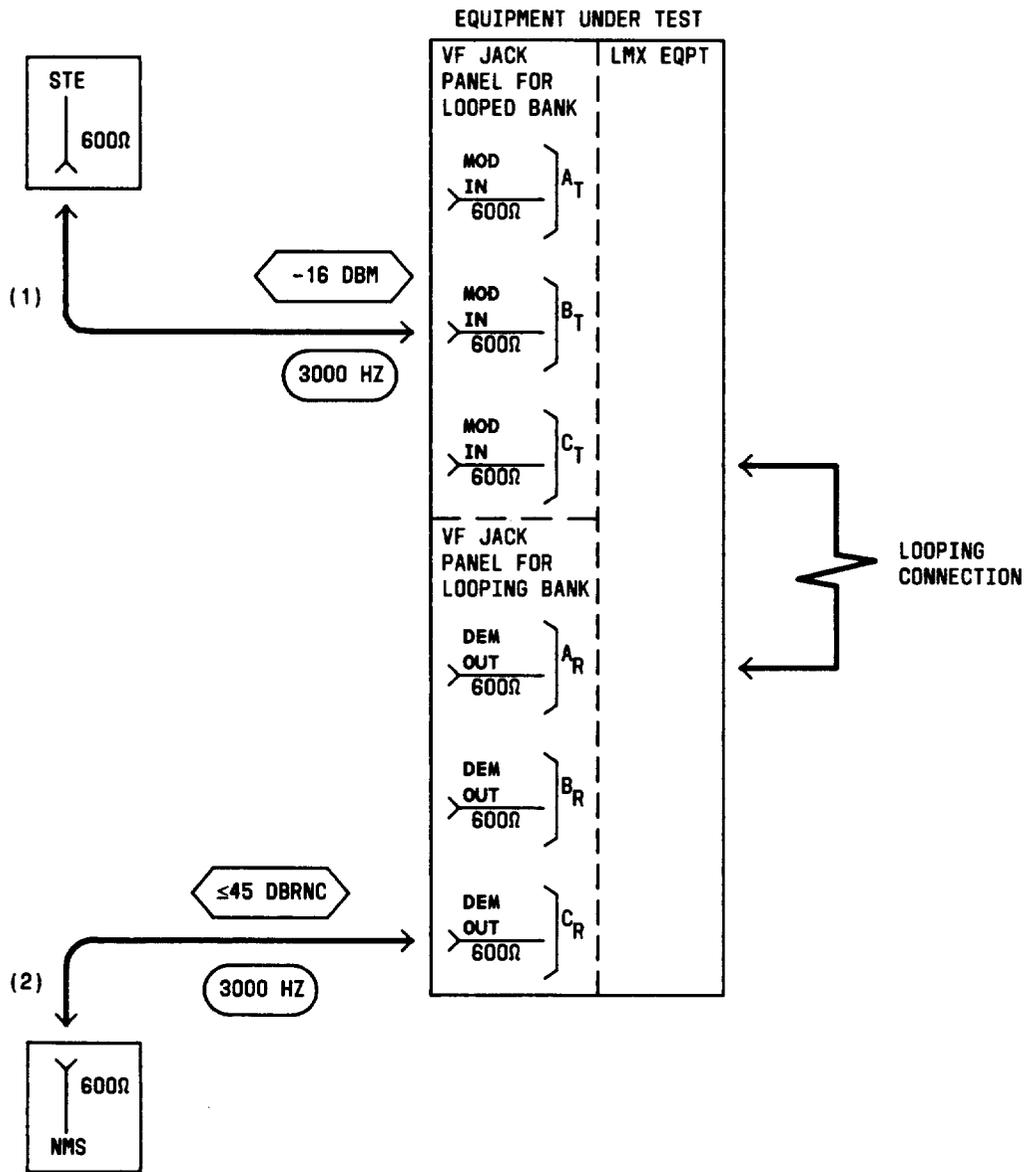

Fig. 16—Patching Diagram—Crosstalk Test—Equal-Level Looping—Upper Adjacent Channel (3000 Hz)
- 19 Connect the STE to the MOD IN jack for Test A in *looped*-bank Channel BT [Table G and patch (1), Fig. 16].
- 20 Connect the NMS to the DEM OUT jack for Test A in *looping*-bank Channel CR [Table G and patch (2), Fig. 16].
24	Remove patches (1) and (2), Fig. 16.